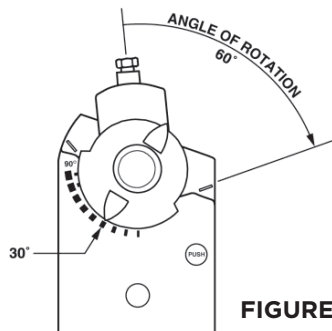

FIGURE 15
5. Remove the shaft adapter and insert it with the position indicator pointing to mark on the scale calculated in the previous step. Figure 15.